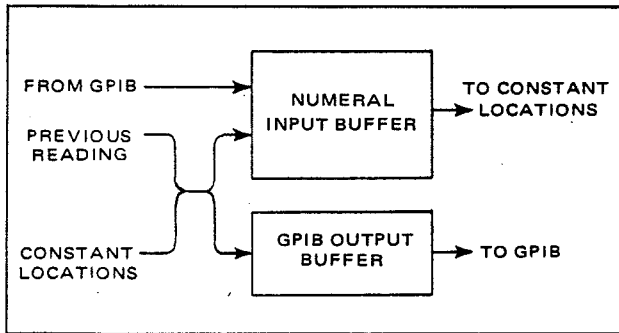

Figure 3.21 - GPIB Numerical Buffers
3.5.9.1 Two main buffers are used during GPIB STORE/RECALL Commands. These commands cause readings and numerical constants to be moved from one memory location to another inside the DMM. To understand how these commands operate, refer to Figure 3.21. The output buffer